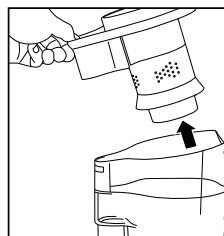

Fig. 5
2. Remove the cyclonic filter holder (Fig. 5).